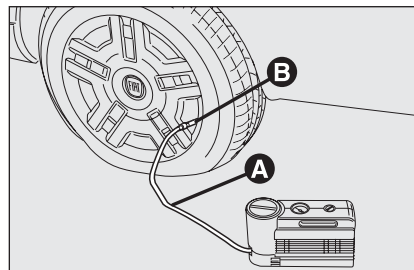

fig. 12
- ☐ Engage the handbrake. Undo the tyre valve cap, extract the transparent filler pipe **A**-fig. 12 and tighten the ring nut **B** on the tyre valve;